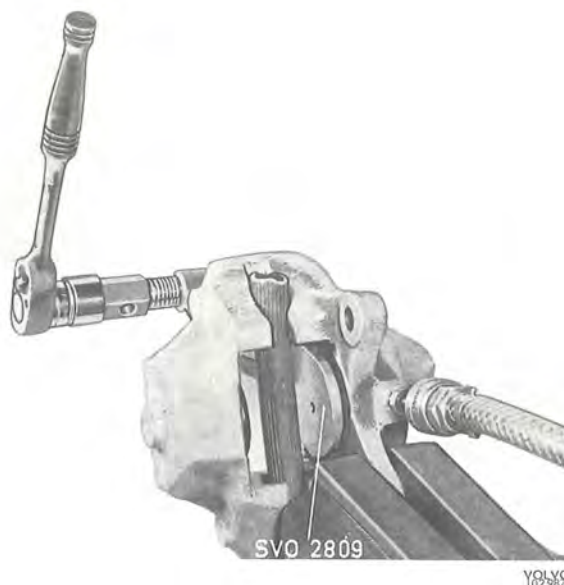

Fig. 5-27. Removing the piston
2. Remove the dust cover retaining tings and the dust covers. Place the caliper in a vice as shown in Fig. 5-27. Fit tool SVO 2809 and press one of the pistons down to the bottom. Fit a suitable venting connection, see Fig. 5-4, in the caliper. Place a hose piece in the caliper and force out the other piston. The pressure required may go up to about 7 kg/cm² (100 lb.sq.in.). Remove the piston.